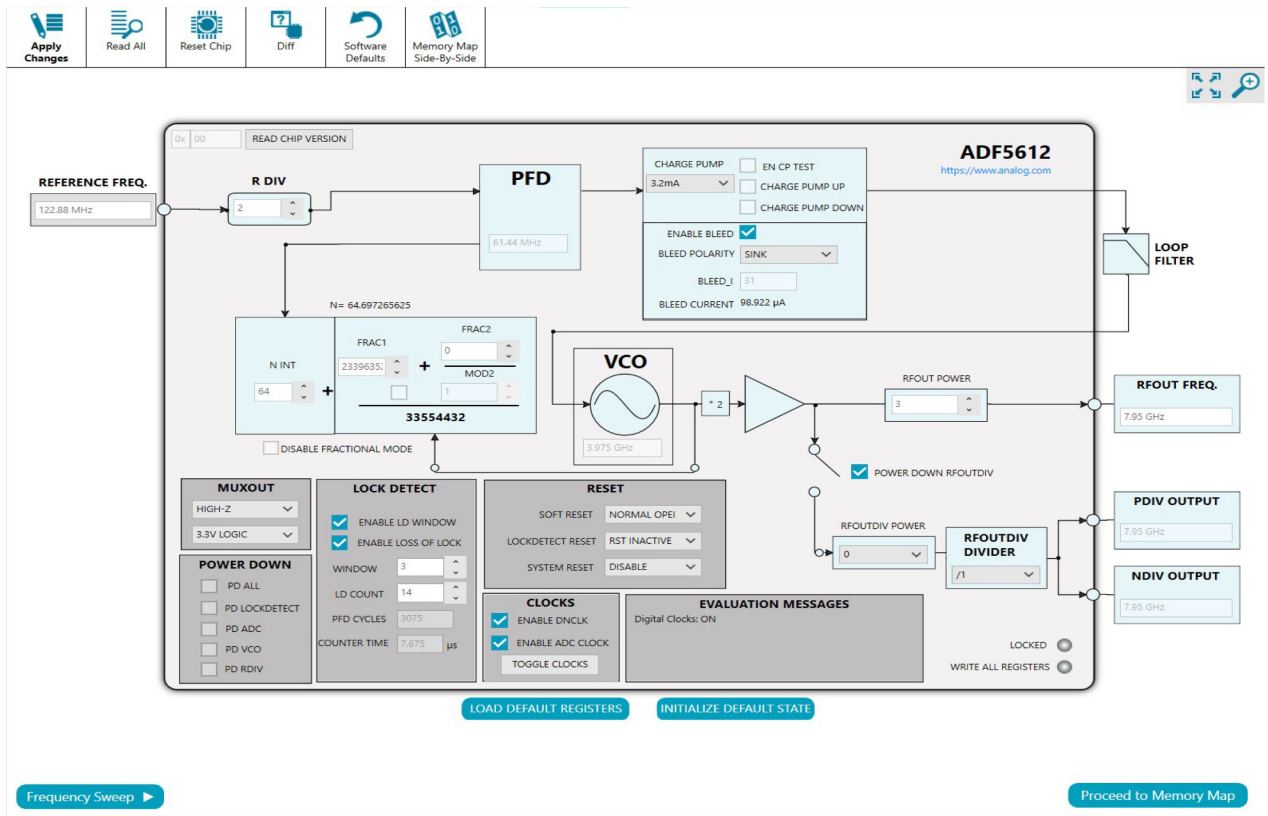
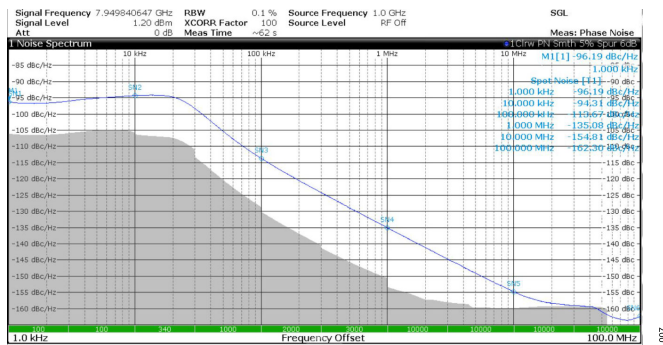

Figure 5. Main Page and Frequency Controls
Figure 7. Single Sideband Phase Noise of 7.95GHz Output at 122.88MHz On-Board Reference
If both of these RF outputs are used, ensure that these outputs are connected to equal load impedance. If only one port of the differential pair is used, terminate the complementary port with a 50Ω termination. The frequency range of these outputs is 7.3GHz to 8.5GHz with the divider set to 1. Additional output divider values of 1, 2, 4, 8, 16, 32, 64, and 128 allow a frequency output as low as 57MHz. The divider value can be set via the ACE Software using the **RFOUTDIV DIVIDER** numeric selectors (see Figure 5).
The output power of the single-ended and differential RF output channels can be adjusted via the ACE Software Plug-ins individually using the **RFOUT POWER** and **RFOUTDIV POWER** numeric selectors, respectively (see Figure 5).
The differential RF output channels are disabled by default in the ACE Software Plug-ins; however, these channels can be enabled by unchecking the **POWER DOWN RFOUTDIV** box (see Figure 5).
3. Double click the **ADF5612** chip icon that appears on the ACE board view to open the main control window shown in **Figure 5**.
The main controls are available in the high level register map shown in Figure 5. The ACE Software ADF5612 plug-in opens with uninitialized registers. Two ways to initialize the registers and the ADF5612 are as follows:
If the **RFOUT FREQ.** or any of the frequency parameters entered are outside of the operational range, a notification message will appear in the **EVALUATION MESSAGES** section (see Figure 5).
Specific blocks can be powered down by setting the corresponding power-down check box within the **POWER DOWN** section shown in Figure 5.
Digital clocks used for autocalibration can be toggled after each frequency modification, post **Apply Changes**, by clicking the **TOGGLE CLOCKS** button in the **CLOCKS** section as shown in Figure 5. This feature can be used to disable or enable digital clocks post calibration. Note that the actual state of the digital clocks is displayed in the **EVALUATION MESSAGES** box.
Run the ACE Software and follow the steps given in Evaluation Board Software section to open the main page as shown in Figure 5.
Click **INITIALIZE DEFAULT STATE** on the ACE Software main page to achieve a 7.95GHz clock at the RFOUT output (see Figure 5). Measure the output spectrum and single sideband phase noise on a signal analyzer. Figure 7 shows a phase noise plot of the SMA RFOUT with an output of 7.95GHz at a reference frequency of 122.88MHz, a f_{PFD} of 61.44MHz, and a charge pump current of 3.2mA.